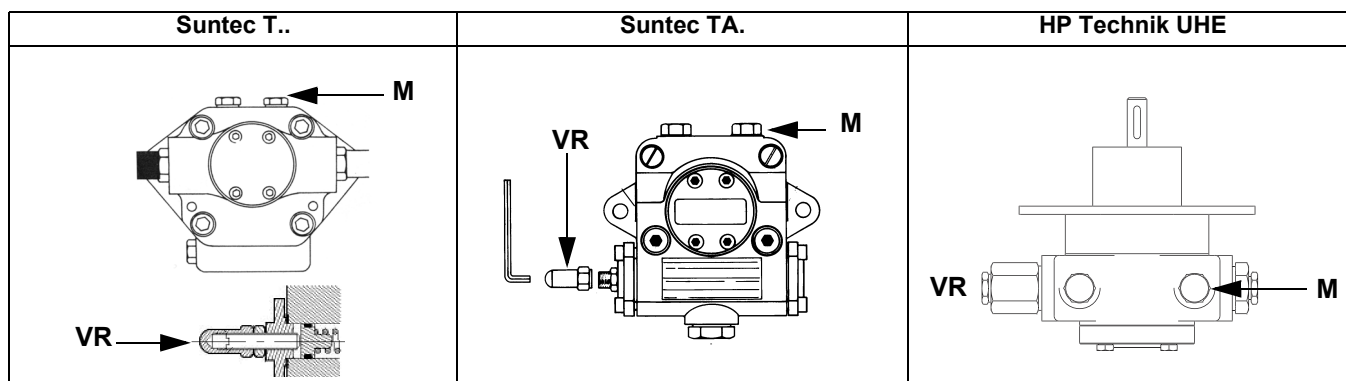
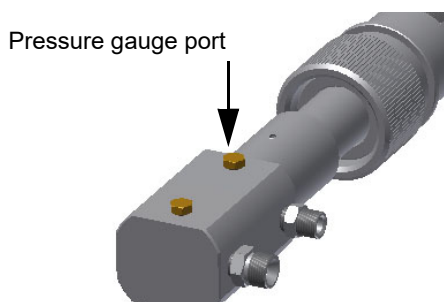

Fig. 4
Fig. 5
- 3 bleed the air from the **M** pressure gauge port (Fig. 4) by loosening the cap without removing it, then release the contactor.
- 5 Only if necessary, adjust the supply pressure as follows (see related paragraph); insert a pressure gauge into the port shown on Fig. 5 and act on on the pump adjusting screw **VR** (see Fig. 4) as to get the nozzle pressure at 20bar (Monarch or Fluidics nozzles - see page 43-38).
- 2 Remove screws 1 ÷ 4 using the Allen key n. 3 and remove filter cover 5 in Fig. 5.
2. Slide VD forward up to the stop, fig. 4.
3. Screw VD on with 2 M5 screws for each, max. 5 Nm/44 in.-lb., fig. 5/6.